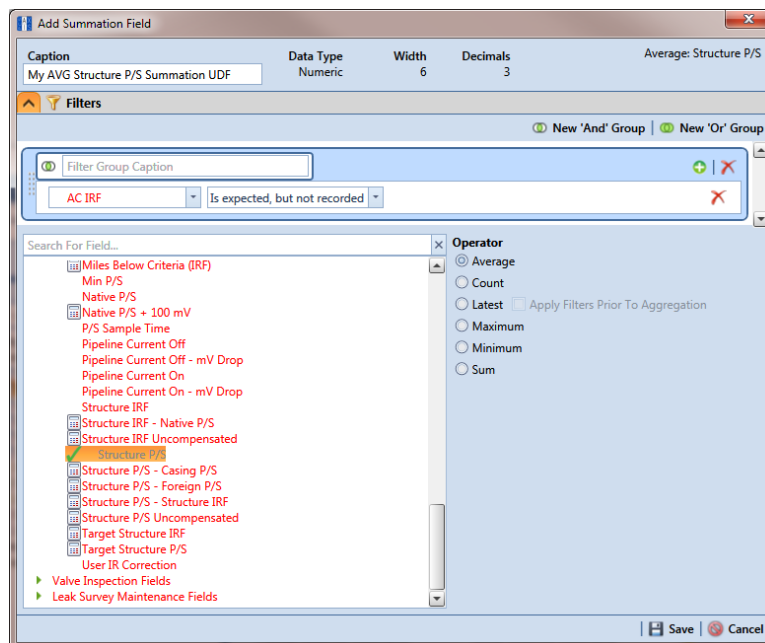

Figure 3-64. New 'And' Filter
- b** Click  **New 'And' Group** to open the filter properties group box (Figure 3-64, page 117).